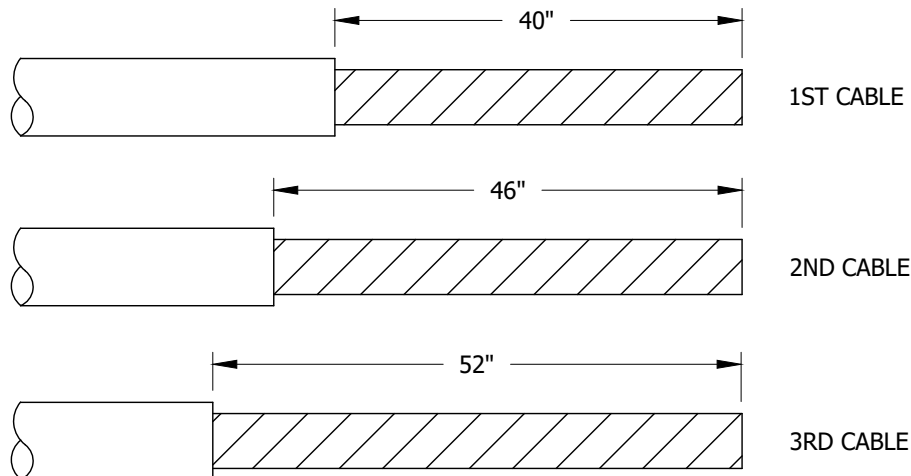

FIGURE 2 (G)
- B. FOR CABLE POLE RUNS OF 1000 KCMIL CABLE AND FOR OTHER RUNS OF 1000 KCMIL CABLE, WHEN A FEEDER TUBE IS USED IT IS NECESSARY TO REMOVE THE CABLE JACKET BEYOND THE END OF THE PULLING GRIP (SEE FIGURE 2). IF THE ENSLEY CABLE EYE IS USED REFER TO STANDARD PRACTICE #215.